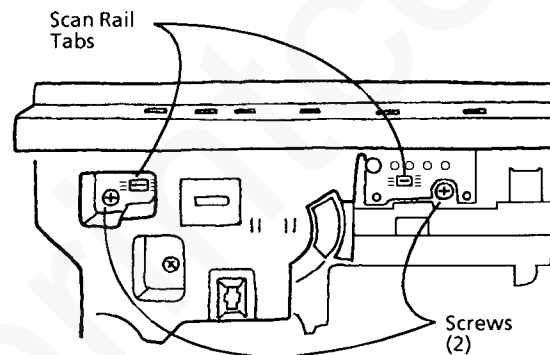

Figure 2. Adjusting the Scan Rail
2. Loosen the screws, adjust the Scan Rail, and then tighten the screws (Figure 2).